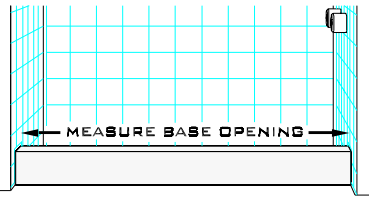

figure 1
1. Measure the base opening along center of shower curb as shown in figure 1. Trim Sill (A) to 1/16" less than measurement obtained.